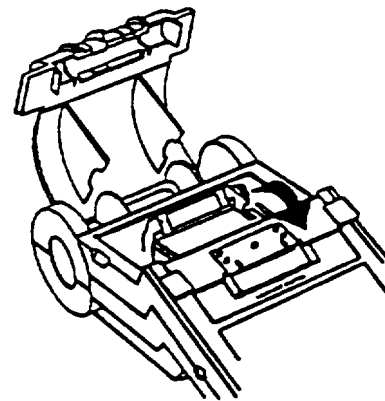

Figure 16. Ribbon Compartment
b. Expose ribbon compartment by lifting cover on the house tear bar. Place a finger to either side of tear bar and tilt cover back toward front of printer (Figure 16)